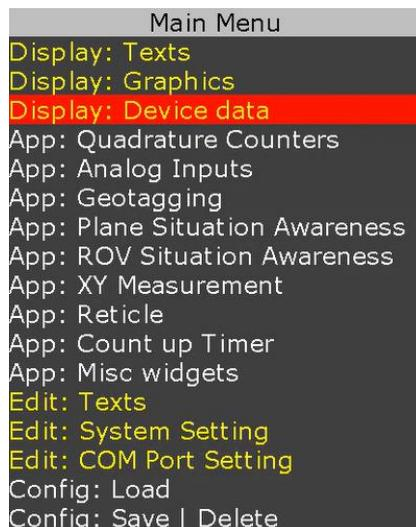
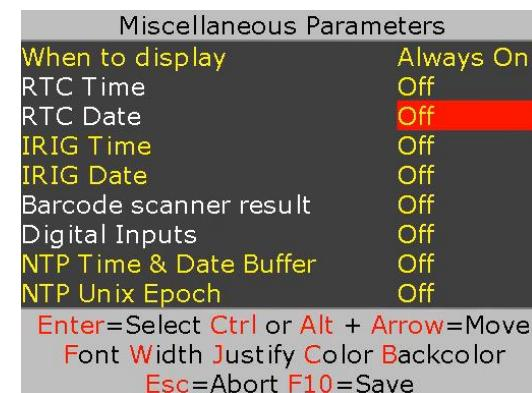

Figure 3
Figure 5
2. Follow *Figure 3 - Figure 5* to insert the desired parameter
3. On *Figure 5*, use $\uparrow\downarrow$ arrow keys to select "RTC Time"